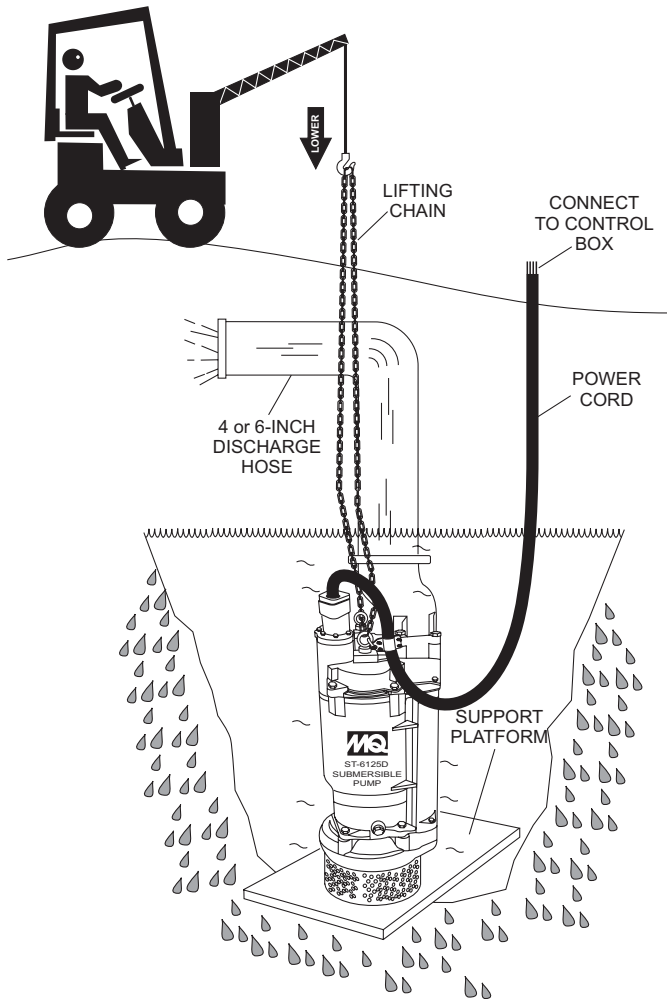

Figure 14. Placing the Submersible Pump
1. Attach a suitable lifting chain to the eye bolts (Figure 14) on the pump and using a crane, or similar equipment, lower the pump into place. For applications where there is an excessive amount of mud, grit or silt, the use of a support platform is desirable.